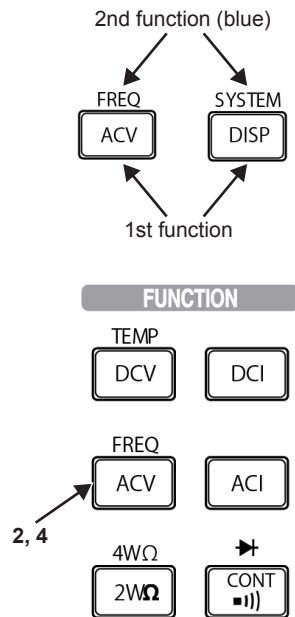

Figure 3.4 FUNCTION part
- 2 Press [ACV(FREQ)] in Figure 3.4.